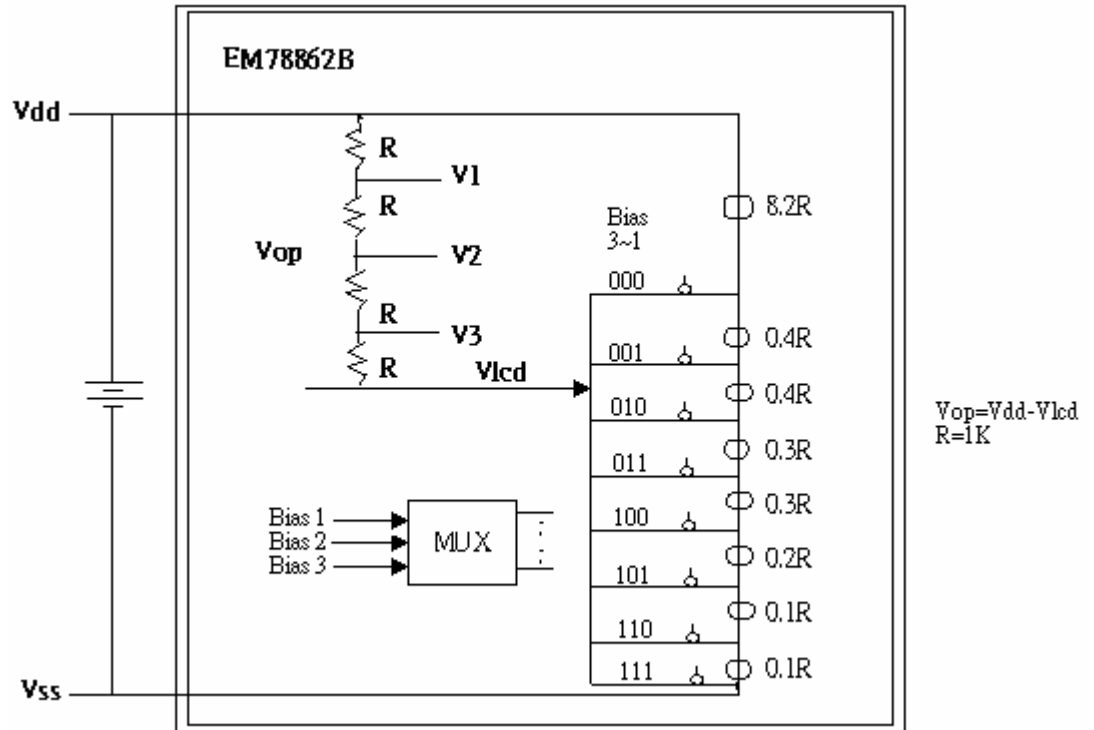

Fig. 7-12 LCD Bias Circuit
**Bit 2~4 (Bias1~Bias3)** Control bits used to choose LCD operation voltage . For the circuit, refer to Figure 7-12.